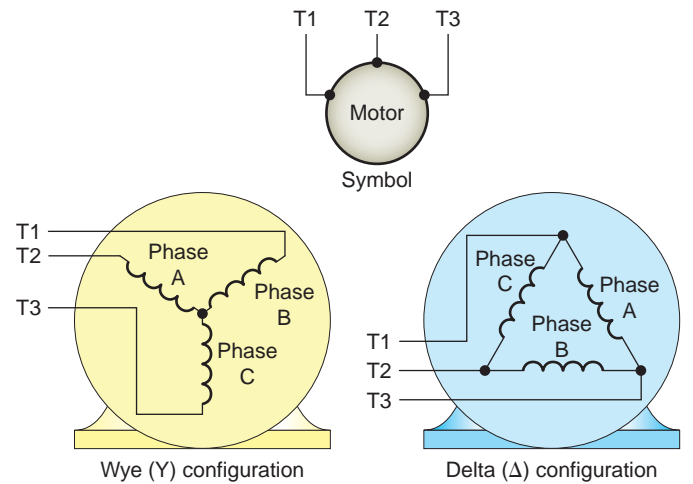

Figure 2-29 Three-phase wye and delta motor connections.
Large horsepower AC motors are usually three-phase. All three-phase motors are constructed internally with a number of individually wound coils. Regardless of how many individual coils there are, the individual coils will always be wired together (series or parallel) to produce three distinct windings, which are referred to as phase A, phase B, and phase C. All three-phase motors are wired so that the phases are connected in either wye (Y) or delta (Δ) configuration, as illustrated in Figure 2-29.